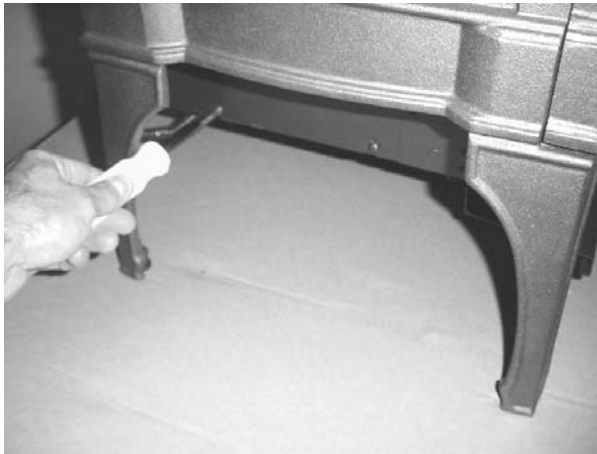
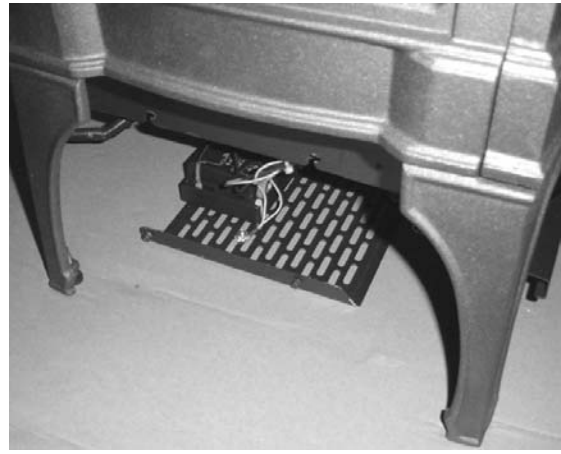

Figure 1
Figure 2
- 1 Loosen the bottom panel attachment screws (there are two on each side see Figure 1). Slide the bottom panel back and place it below the stove (see Figure 2). This allows for access to the controls under the stove